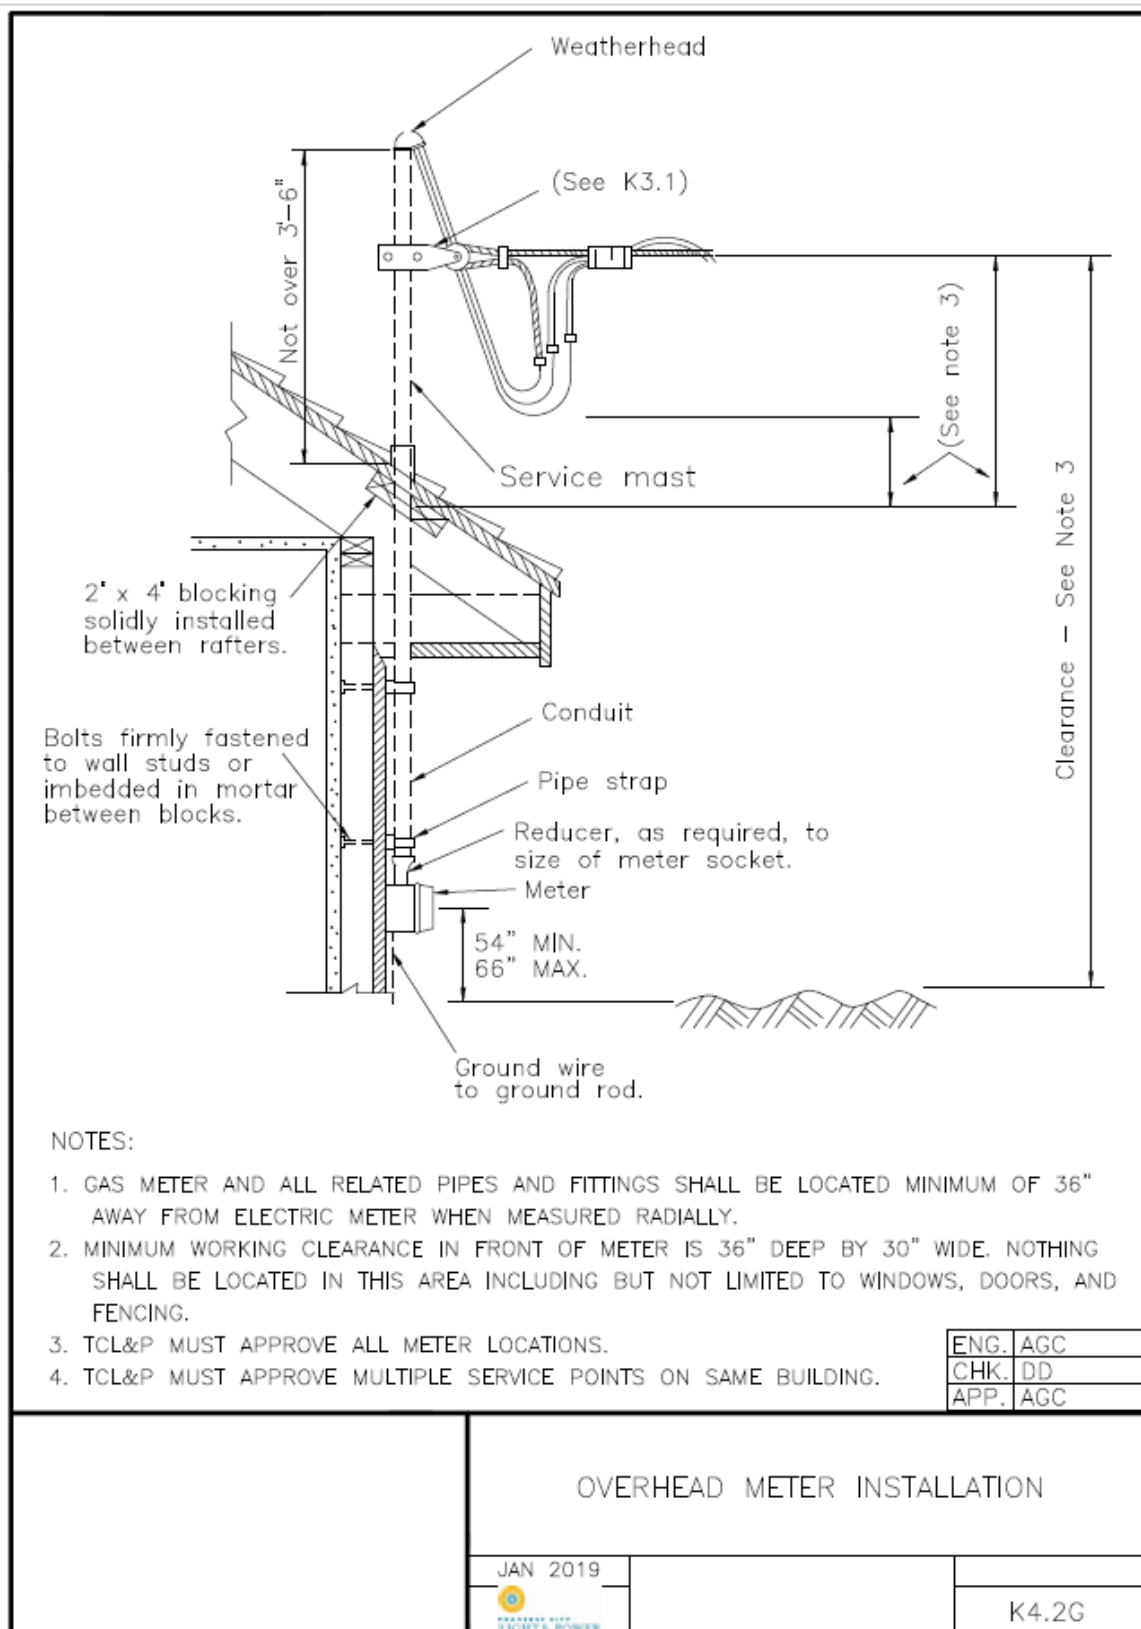

Figure 9.1 – Overhead Meter Installation
3. *Service Trench* and conduit installation is to be installed per Figure 9.1.